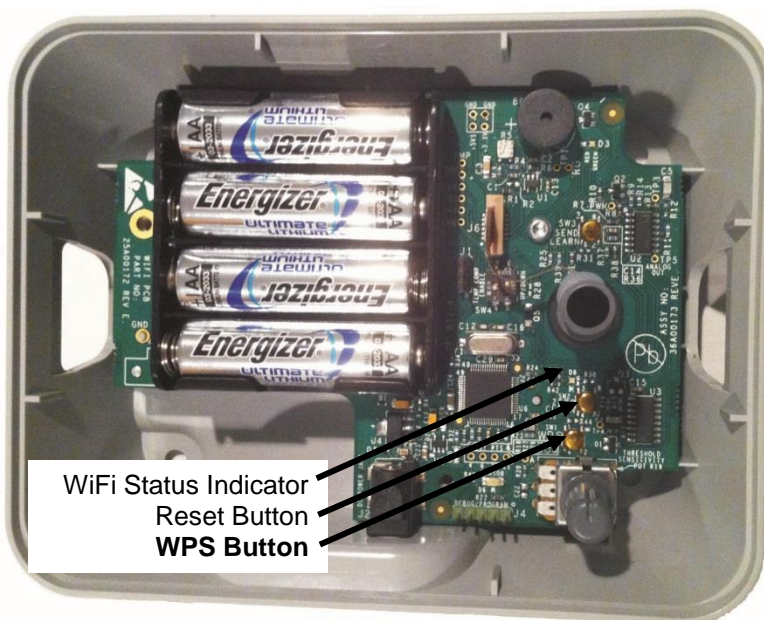

Figure 12: *WiFi* Status LED and WPS Button Locations
2. Reference Figure 12 to locate the **FILTERSCAN WiFi Home Air Filter Monitor** WPS button.
2. See Figure 12 to locate the **FILTERSCAN WiFi Home Air Filter Monitor** WPS button.